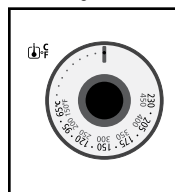

Figure 2
3. **Temperature Control Knob** – Adjust the dial thermostat to the desired temperature. (See Figure 2)